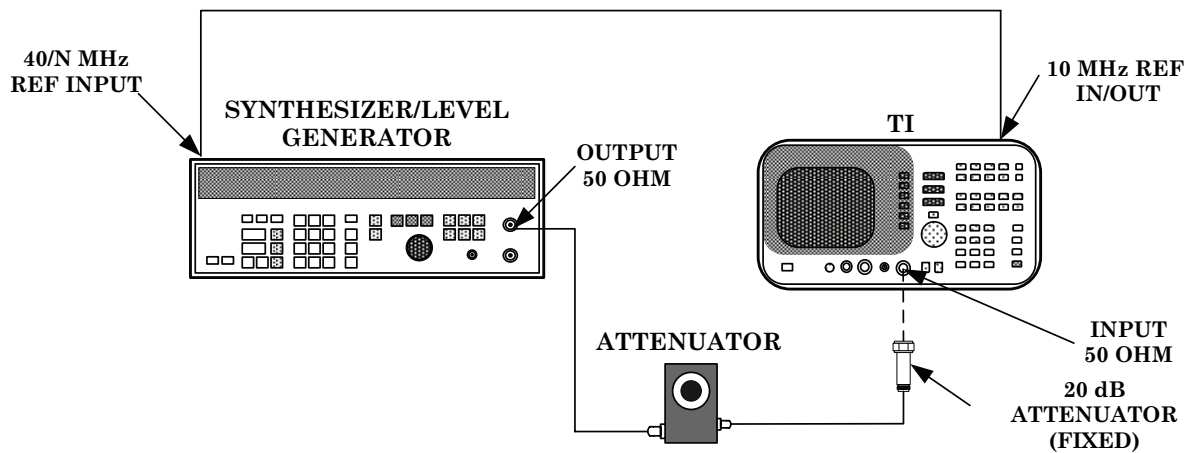

Figure 2. Input attenuator accuracy (50 MHz) - equipment setup.
(1) Connect equipment as shown in figure 2.